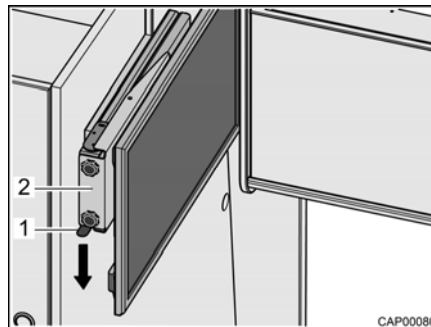

Fig. 94 Pull-out with flat screen
- Press catch spring (Fig. 94,1) downwards and pull pull-out (Fig. 94,2) with flat screen out horizontally towards the centre of the vehicle.
- Push the pull-out (Fig. 94,2) with flat screen in horizontally as far as it will go. The catch spring (Fig. 94,1) engages audibly.